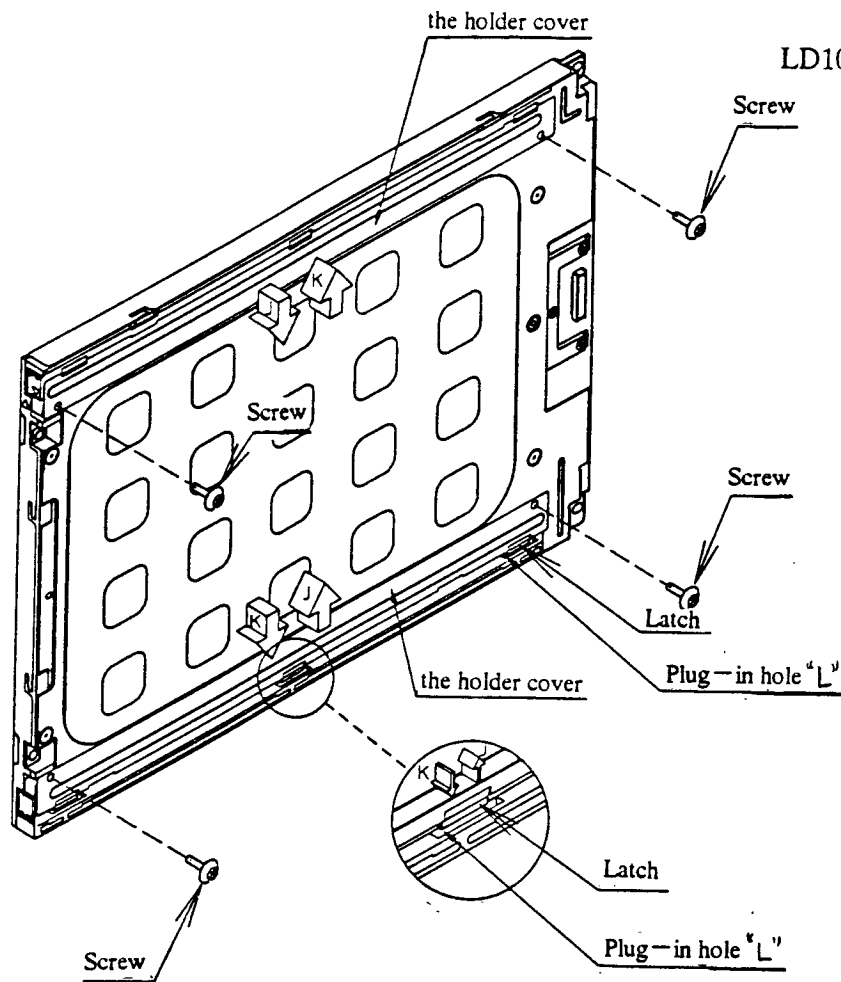
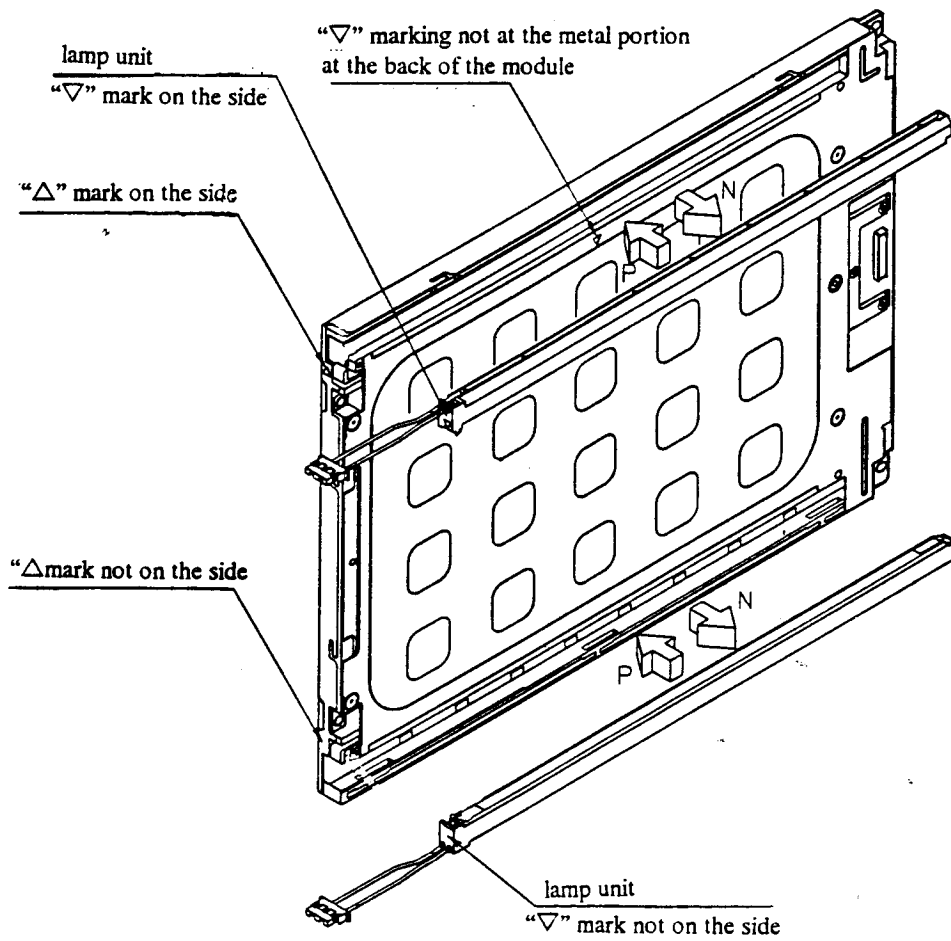

Fig. 4. Procedure to exchange backlight unit by back side
Fig. 5 Procedure to exchange backlight unit by back side
8- 2 )By Backside (refer to Fig. 4 and Fig. 5 )
- ① Remove 4 screws which holds the holder cover. (refer to Fig. 4)
- ② Slide the holder cover to the “J” direction. Then remove the holder covers.
- ③ Remove the Lamp units. (refer to Fig.5)
- ④ Replace the new lamp unit with the one that has a marking “▽” on the surface. And the other new unit with no marking on it.
- ⑤ Slide the holder cover to the “ K ” direction and place the latch to the plug-in hole “L”, located by the LCD module.
- ⑥ Tighten the 4 screws to fix the holder cover along the screw gap of hole. The screw torque should be maximum 2kgf · cm. If you tighten the screw over 2kgf.cm, the screw should be destroyed. Please be careful.
- ⑦ Please insert the lamp with care while replacing. Please be careful for any dust that goes in. Please make sure that the lamp unit is in all the way.
- ⑧ Not only one side ,both lamps should be exchanged.